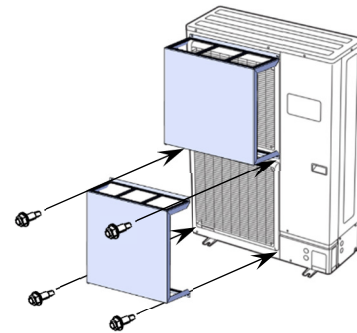

Figure 3
- (4) Install the wind baffle on the lower fan in the same way as the upper fan as shown in Figure 3.